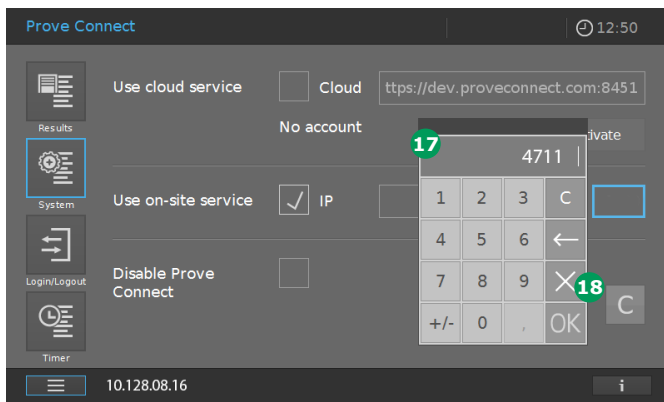

Figure 32 - Screen of Spectroquant® Prove (Figure 28) with entered Port of the PC on which Prove Connect runs
11. Click in the field: Port (text box with blue border). The entry field appears 17 (Figure 32).
13. Confirm the entered Port with "OK" 18 (Figure 32).